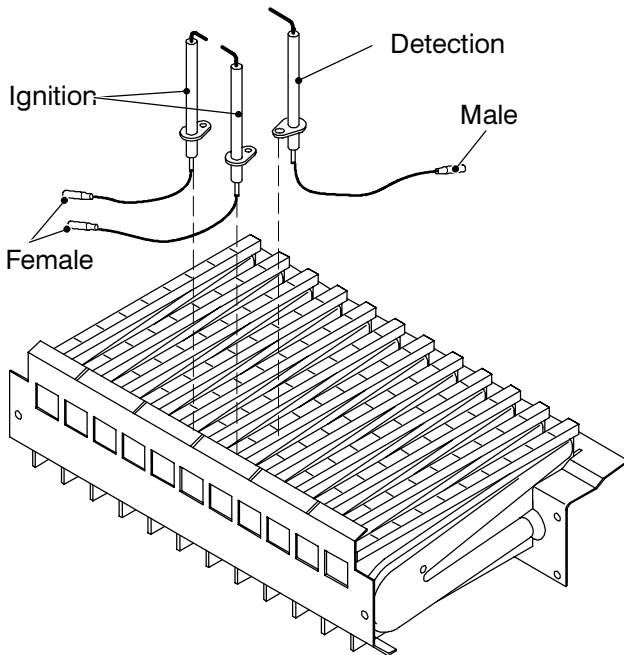

Fig. 72
- 6 Assemble the electrodes carrying out the removal operation in reverse order. Refer to Fig. 72 in order to recognize the electrodes and to correctly connect the wiring.